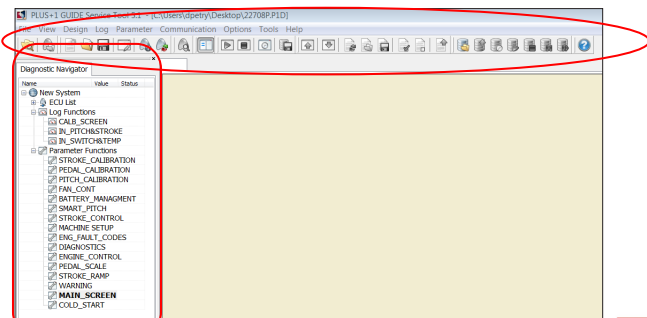

Figure 13. WST Tool Bar
9. The new screen will have both navigation and tool bars active (Figure 13.)